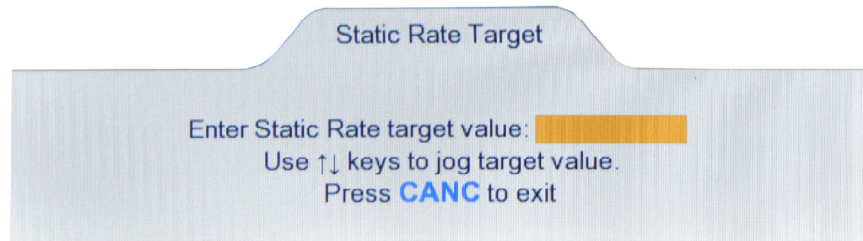

Figure 3.13 : Static Rate Target value
The Static Rate Target value can be changed only if the key# symbol (7) is displayed to the right of the Static Rate Target value field. Press key '7' on the keypad and the Lower section of the display will appear as shown in Figure 3.13 below.
If the Rate Target value needs to be changed in small increments, instead of entering a value, the arrow keys may be used to Jog the Rate Target value up or down. If the current Static Rate Target value is 2000 Feet/min, and the Lower screen appears as in Figure 3.13 above, pressing the **Up-Arrow** key will make the screen appear as shown in Figure 3.14 below.